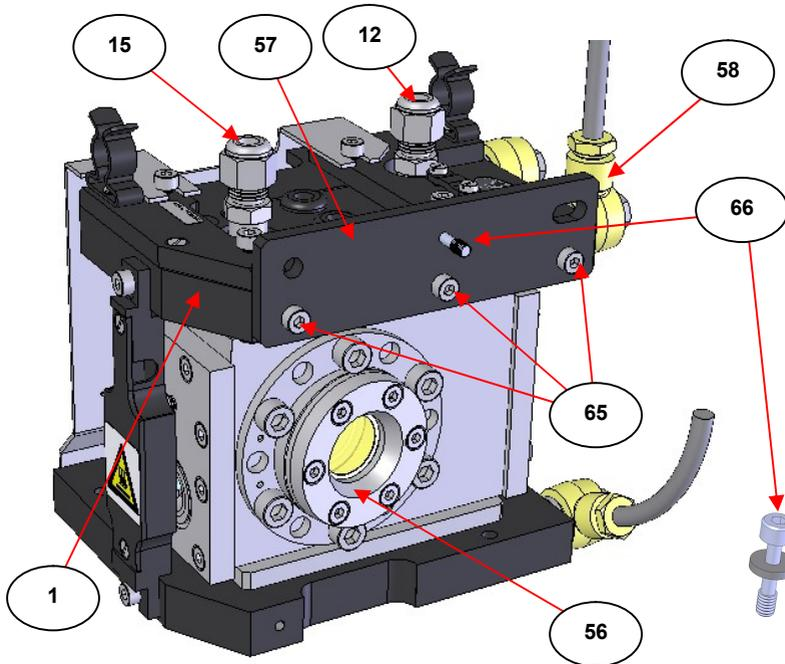

Fig 10. Fitting of the Side Support Plate to the HTHP Cell for a Left to Right Beam Direction Spectrometer
Use the three M4 x 10mm cap head screws (65) supplied to attach the side support plate (57) to the upper water cooled plate (1) of the HTHP Cell on the same side as the wedged window assembly (56). (See **Fig 10.**) There are three threaded location holes in the water cooled plate (1) corresponding with the three holes in the side support plate into which the screws (65) are fitted.
Finally, the supplied M4 x 18mm captive screw fitting with its washer (66) is passed through the central hole between the round hole and slot locations on the side support plate (57) from the direction as shown at **Fig 10**. This captive screw (66) is used to secure the HTHP Cell to the optical baseplate (OB) assembly when installed upon the adapter baseplate (AB) assembly within a left to right beam spectrometer system sample compartment.